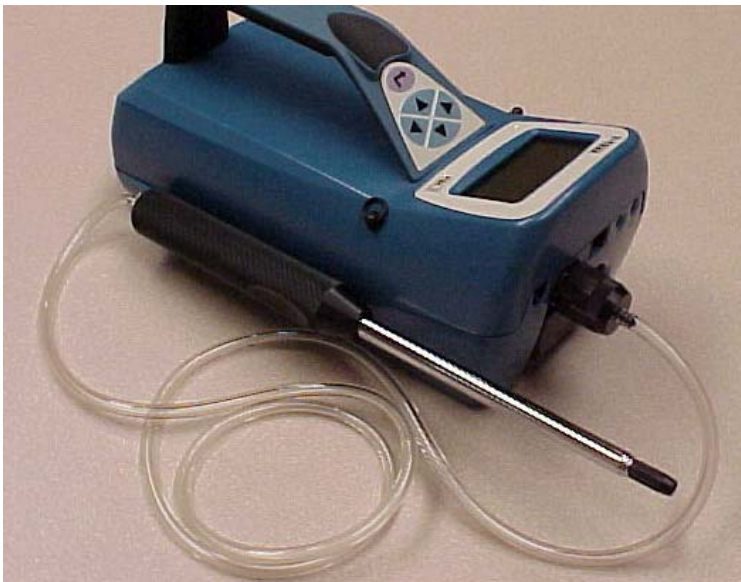

Figure 2-8: Slide Telescoping Probe onto Instrument Case
5. For storage and safe keeping, attach the telescoping probe to *either* side of the instrument. Slide it in lengthwise along the instrument, beginning at the back of the instrument (the alcohol wick end) until it stops (do **not** force it!). See Figure 2-8.